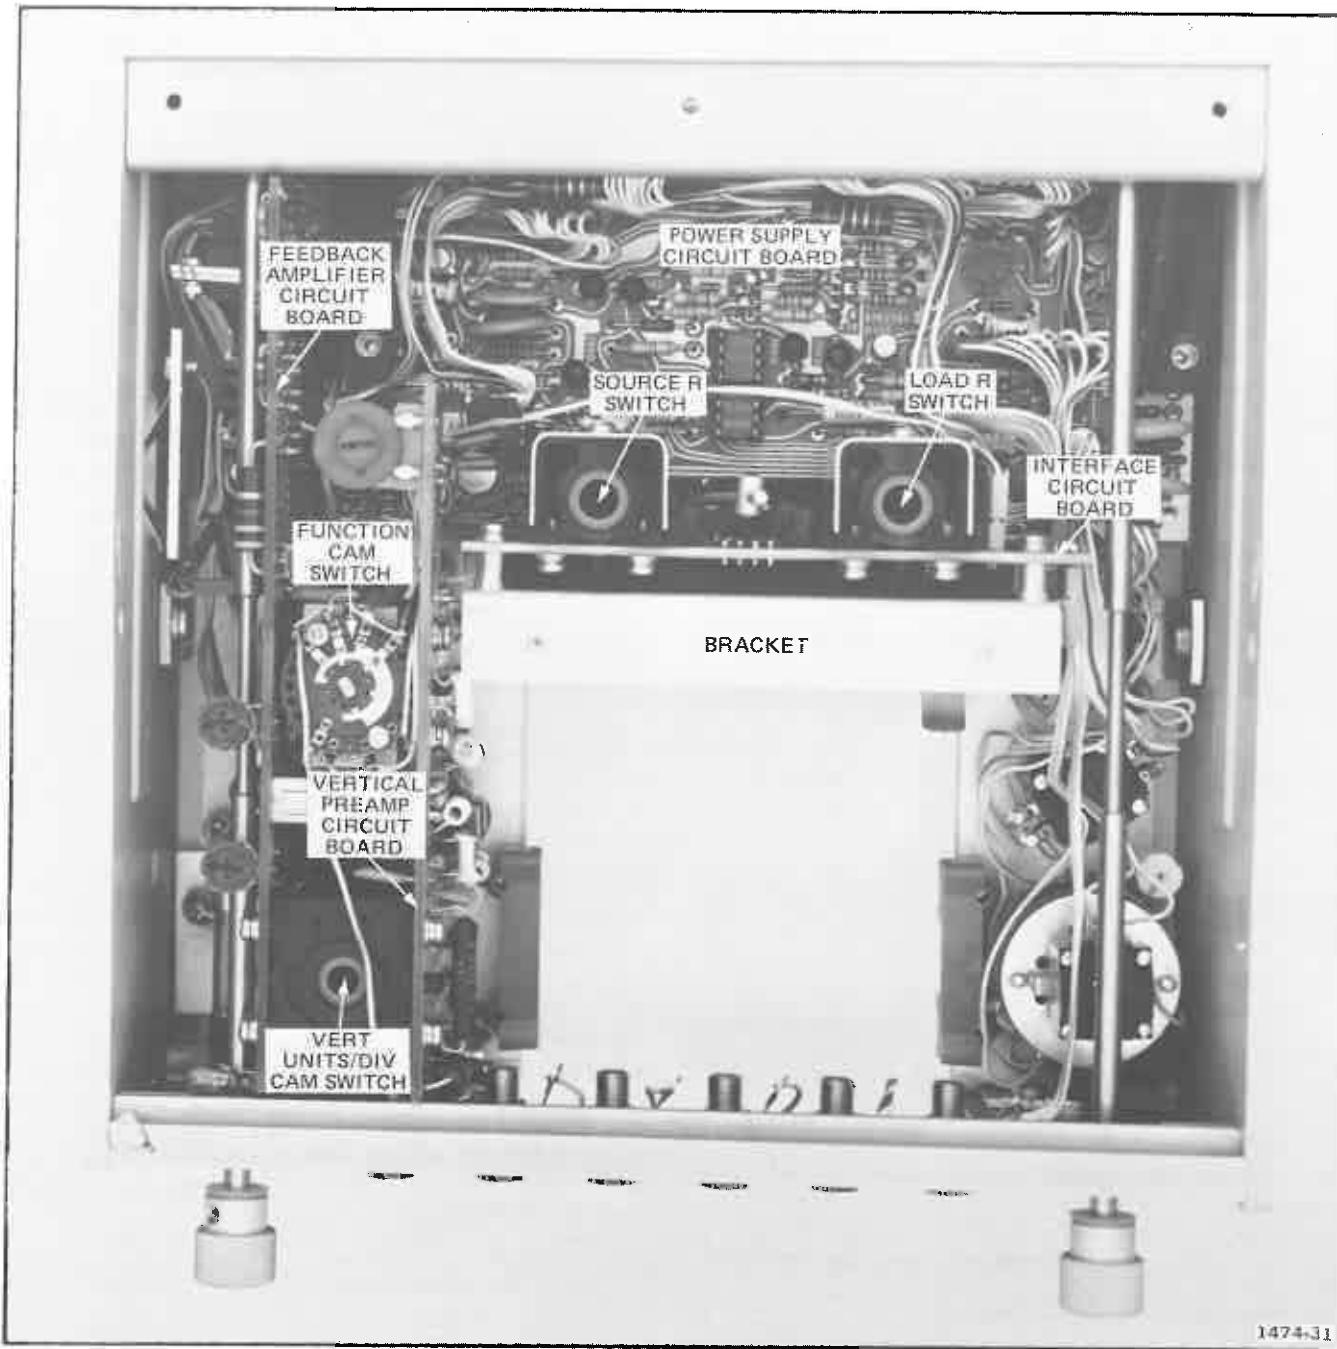

Fig. 4-5. Location of circuit boards in the 178.
a. Remove the eleven multi-pin connectors from the Power Supply circuit board. See Fig. 4-5 for circuit-board location.